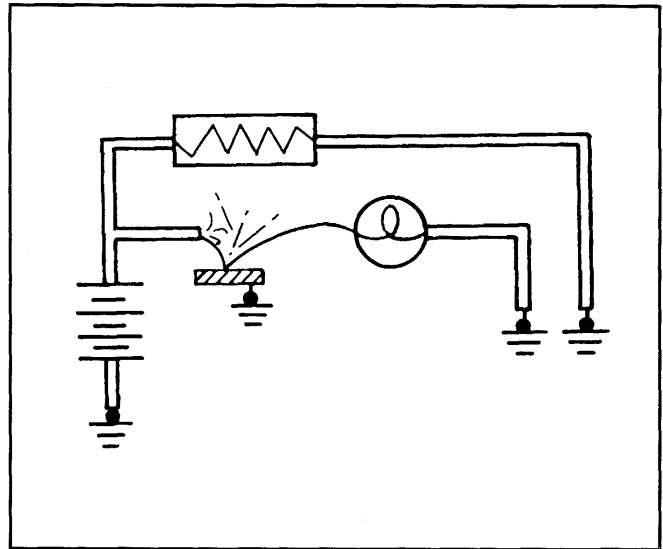

Figure 22 — Grounded Circuit
**GROUNDING CIRCUIT (Figure 22)** – A grounded circuit is like a short circuit but the current flows directly into a ground circuit that is not part of the original circuit. This may be caused by a wire rubbing against the frame or body. Sometimes a wire will break and fall against metal that is connected electrically to the ground side of the voltage supply. A grounded circuit may also be caused by deposits of oil, dirt, or moisture around connections or terminals, which provide a good path to ground.